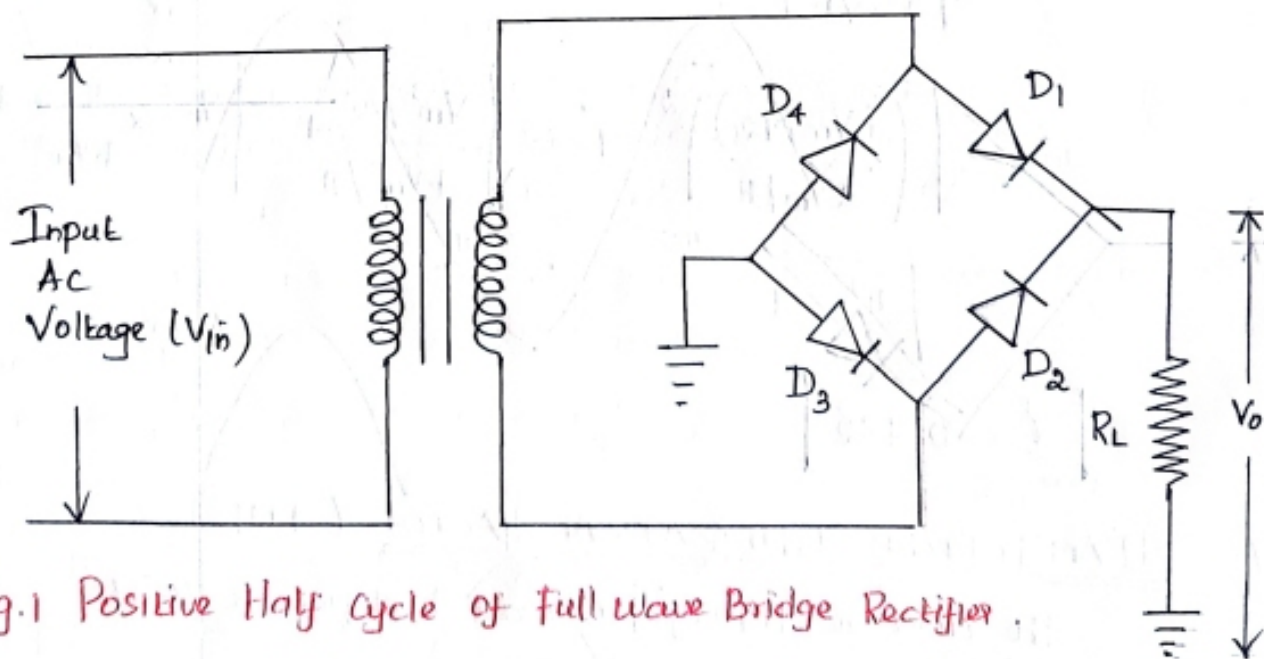

Fig.1 Positive Half cycle of full wave Bridge Rectifier.
- The AC Input Voltage is applied to the diagonally opposite ends of the bridge. The other two ends of the bridge are connected to the Load Resistance. Fig.1 shows the bridge Rectifier using four diodes.